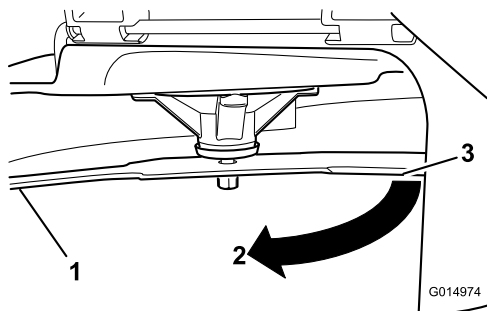

Figure 112
3. Second measured distance between blade and surface (B)
4. Rotate the same blade 180 degrees so that the opposing cutting edge is now in the same position (Figure 112).